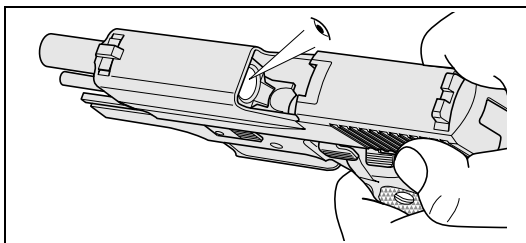

Fig. 3
5. Check visually and manually with a tool that the round was ejected and that no other round is chambered (see Fig. 3).
3. Check that no round is chambered (see Fig. 3).
4. Thumb down takedown lever 16 (see Fig. 3).
6. Hold slide 4 firmly and allow it to glide forward (see Fig. 3).